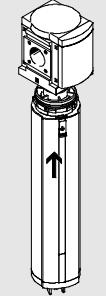

Fig. 8/图 8
- The locking pin on the unlocking slide of the filter bowl must point towards the recess in the housing (→ fig. 8).